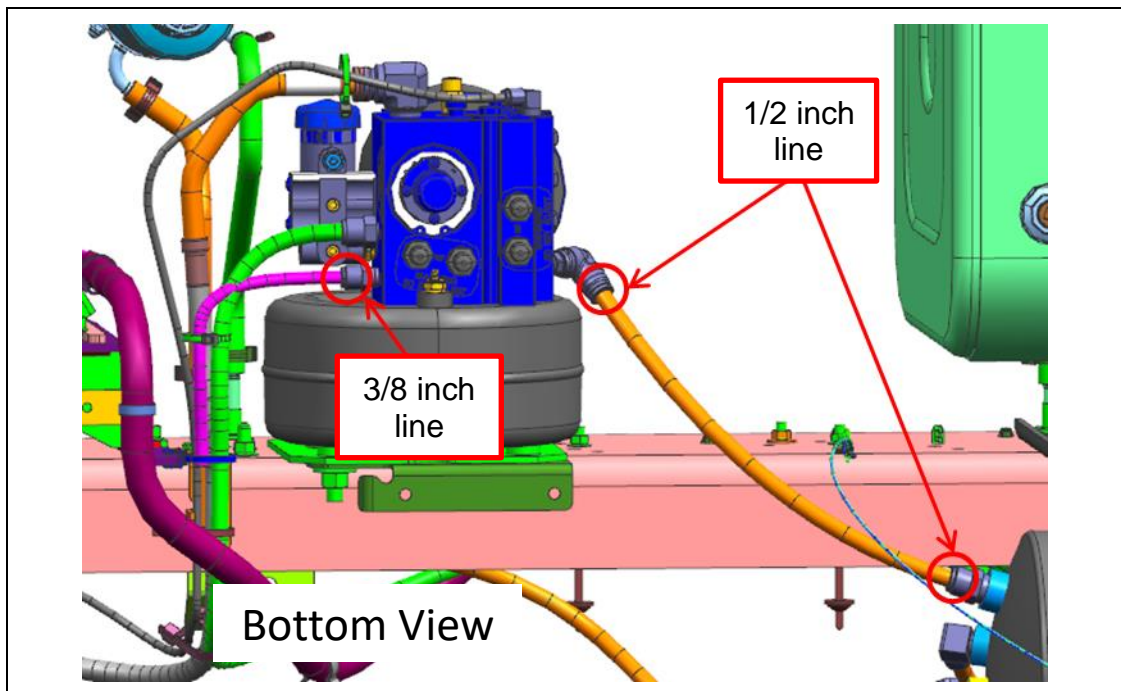

Figure 13
13. Insert the 1/2" line with cut end into swivel connector at port 23 AUX on the air dryer and other end into reservoir. (See Figure 13.)
14. Insert the 3/8" line into air dryer connector at port 22 SEC. (See Figure 13.)